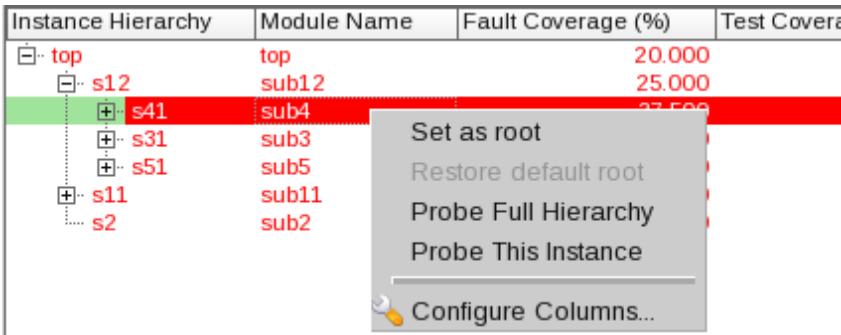

FIGURE 1. Fault Browser Right-Click Menu
- Double-click on any hierarchy in the fault browser (Figure 1)
Figure 1 shows the reported instances in the Fault Browser and the available right-click menu: